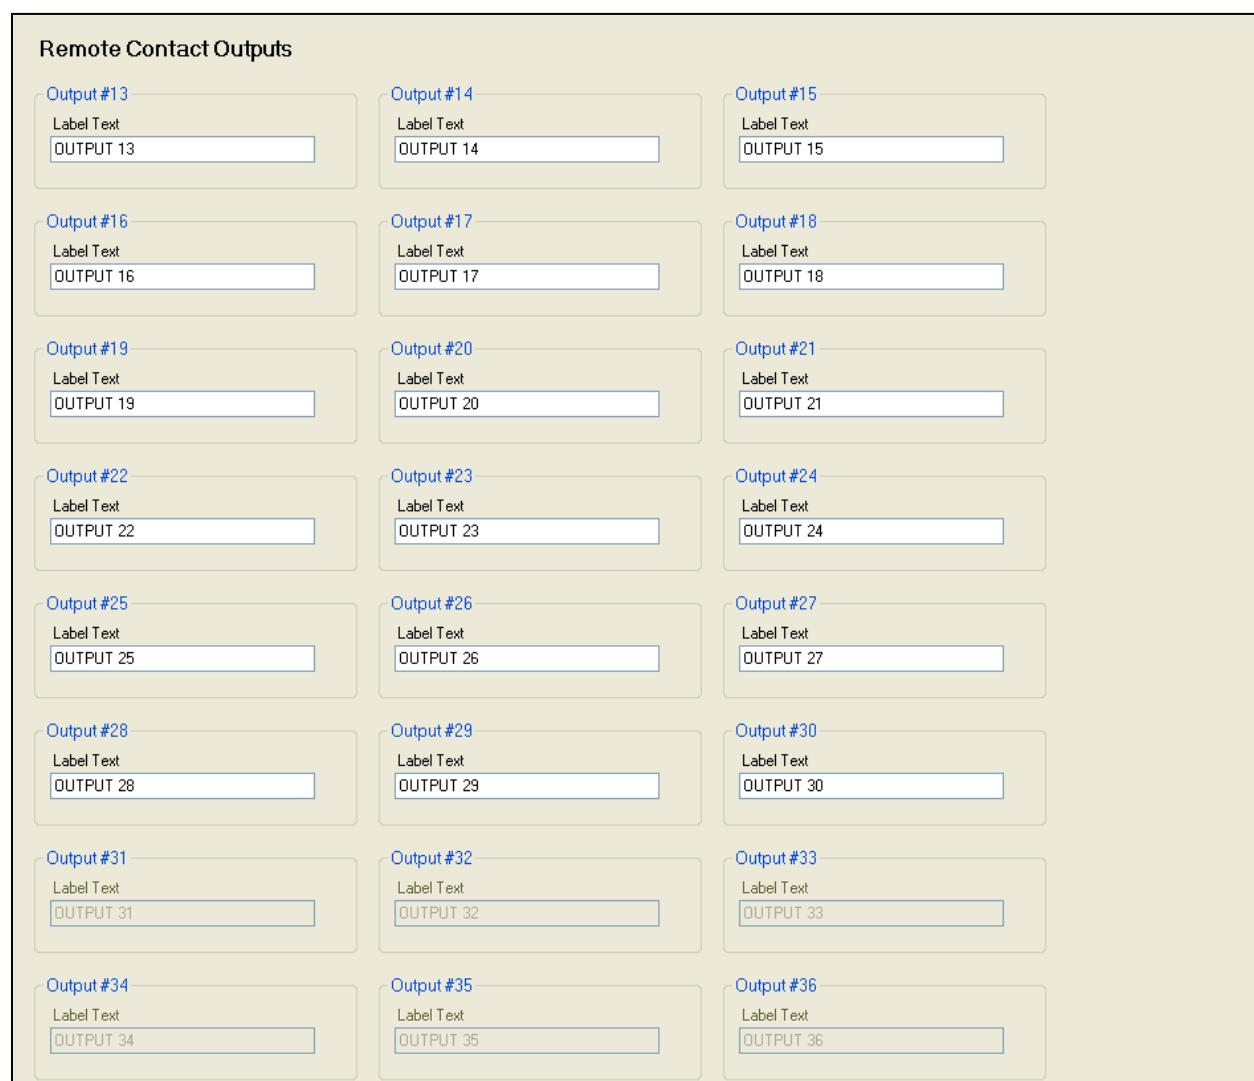

Figure 6-47. Settings Explorer, Programmable Outputs, Contact Outputs Screen
- a. Programmable Contact Outputs. See Figure 6-47.